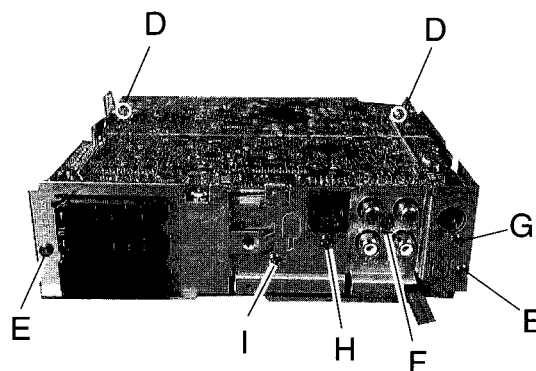

Fig 7
■ Removing the rear brackt (See fig7)